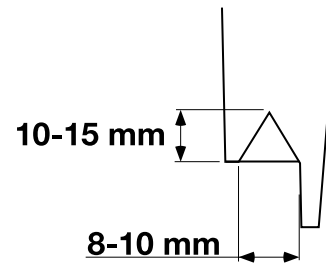

Fig 14.
- d Fit the pre-cut nozzle, see Fig 14. (↗ B-35).